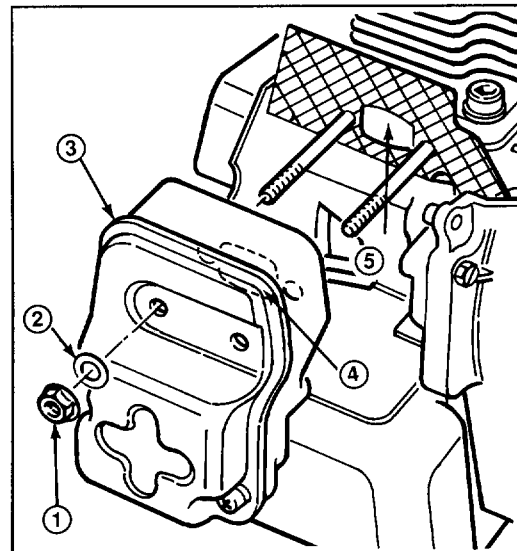

Figure 14
2. Remove two (2) nuts and two (2) washers securing muffler to engine (Fig. 14). Remove muffler.
3. Clean any carbon build-up from muffler port (Fig. 14).
4. Pull recoil starter slowly to rotate the engine crankshaft until the piston totally covers the exhaust port (Fig. 14). Clean the exhaust port area by using a clean, flat piece of hard wood. Remove all loose particles.